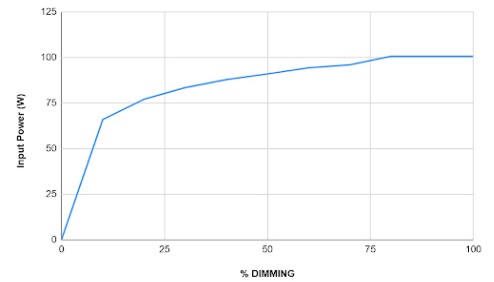

FIG. 19
- The performance graph (Fig. 19) shows the expected dimming response curve. This measurement was taken using five 20W AQL-882 fixtures (100W total) and represents typical performance. Note: Aqualux does not recommend using the basicDIM Wireless G2 if aiming for a linear dimming curve.